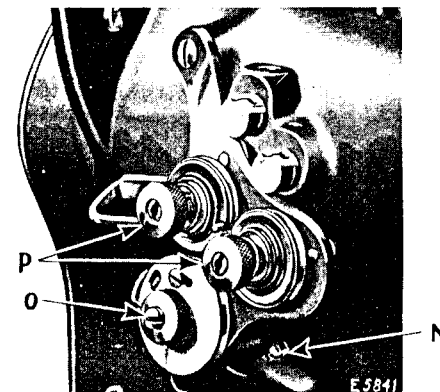

Fig. 18. Adjustment of Thread Controller
The tensions on the needle threads are regulated by the two thumb nuts (P, Fig. 18) at the front of the tension discs on the front of the machine. To increase the tension, turn these thumb nuts over to the right. To decrease the tension, turn the thumb nuts over to the left.
To increase the tension of the thread controller on the threads, loosen the tension stud set screw (N, Fig. 18), located nearly under the tension stud, and turn the tension stud (O, Fig. 18) slightly to the left with a screwdriver, or to decrease the tension turn it to the right and retighten the stud set screw (N).